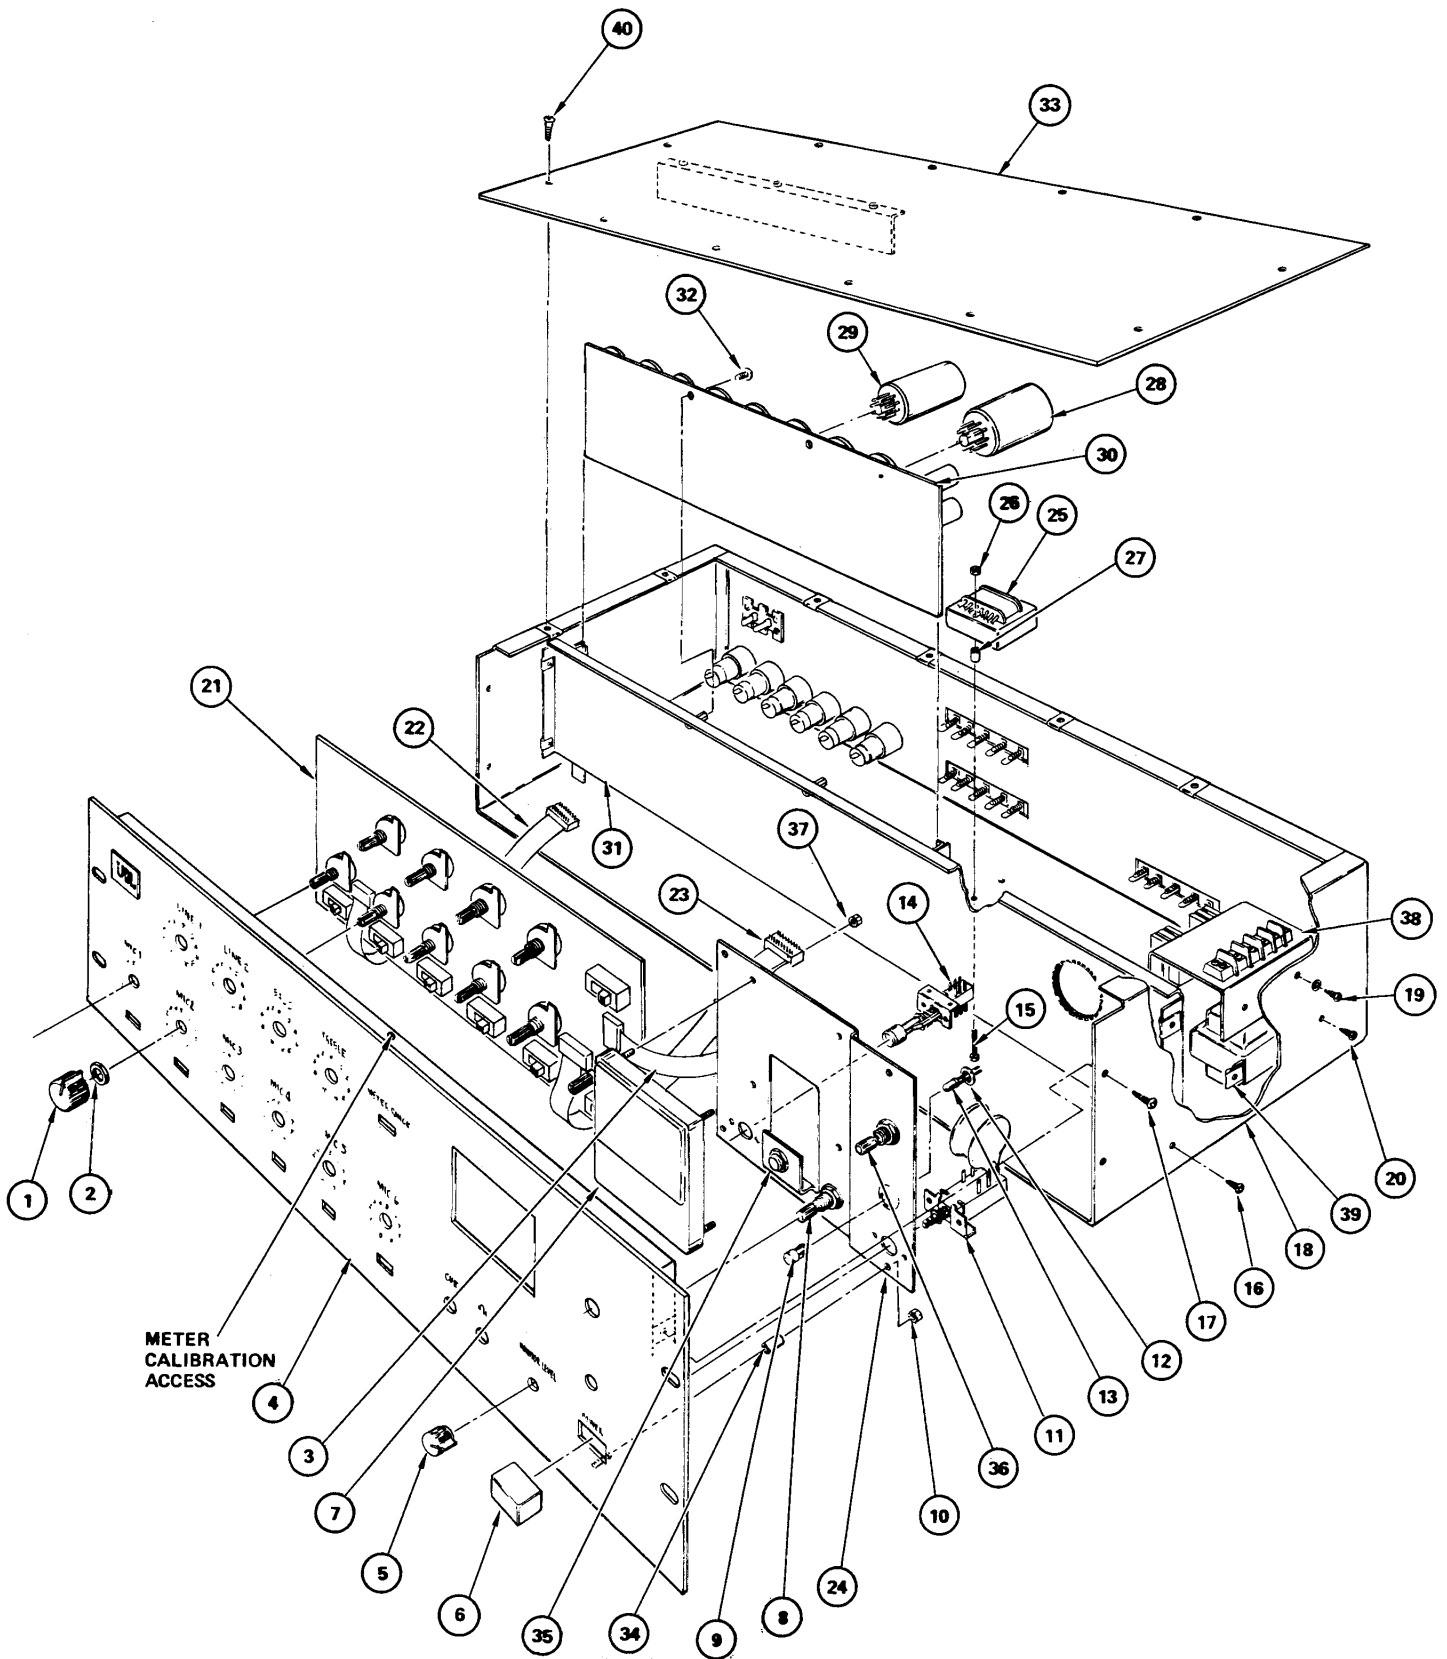

FIGURE 11
- F. Adjust the meter calibration control, VR11, through the access hole on the top of the front panel per Figure 11, for 0 VU indication, 0 dBm out.